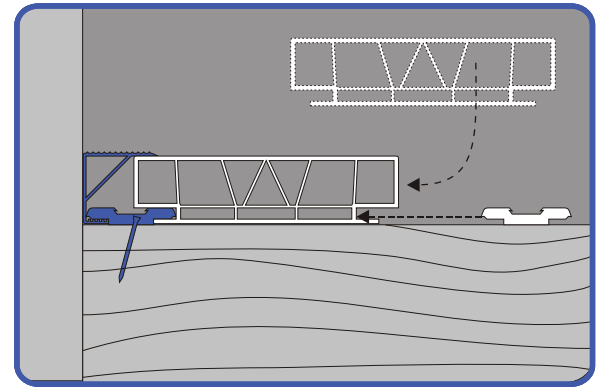

Figure 3
**Step 3. Install deck boards.** Slide the first deck board under the top of the starter channel. Push the deck board toward the anchor biscuit until the anchor biscuit arm fills the slot along the deck board. Insert anchor biscuits into the slot along the exposed side of the deck board above each joist. Tap anchor biscuits into the slot using a rubber mallet to ensure a snug fit. Secure the anchor biscuits to the joists using 1½" deck screws (see Figure 3). Slide the slot in the next deck board around the exposed anchor biscuits. Insert anchor biscuits into the exposed slot of the new deck board above the joists. Secure the anchor biscuits to joists with 1½" deck screws. Continue sliding deck board slots around exposed anchor biscuits, and inserting and securing new anchor biscuits, until the entire substructure is covered.